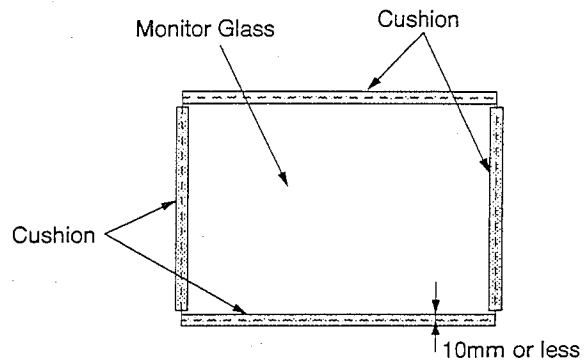

Fig. 4-3
2. Install cushions on the Monitor Glass. (Fig. 4-3)